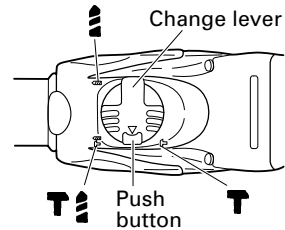

Fig. 13
- (1) Mount the bull point or cold chisel.
- (2) Press the push button and set the change lever to middle of **T** mark and **T** mark. (Fig. 13)